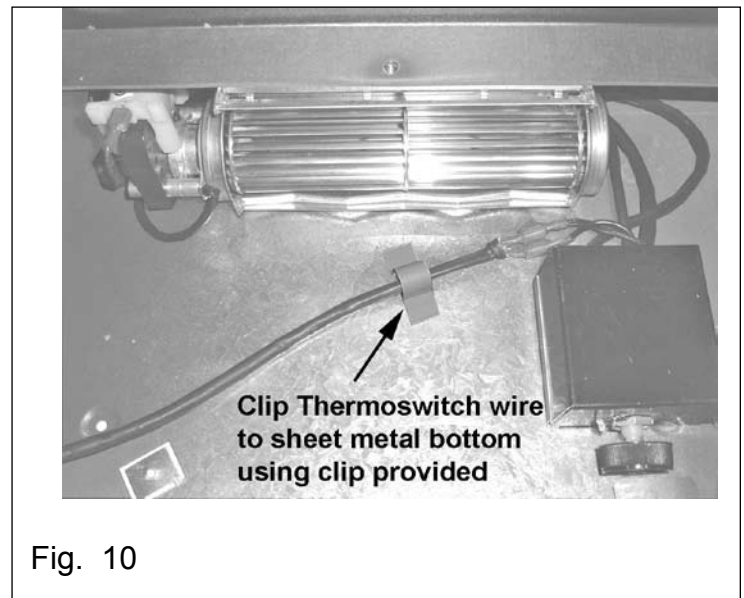

Fig. 10
- Use the U shaped self-adhesive cable retainer to hold the thermoswitch wiring to the floor of the appliance and away from the fan inlet (see Fig. 10).